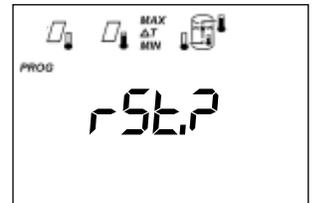

Fig. 30
c. As all installation parameters have previously been set, press  to accept and proceed through each setting until “rst?” appears with collector, tank and thermometer icons (Fig. 30). (this screen is after the appliance selection screen)